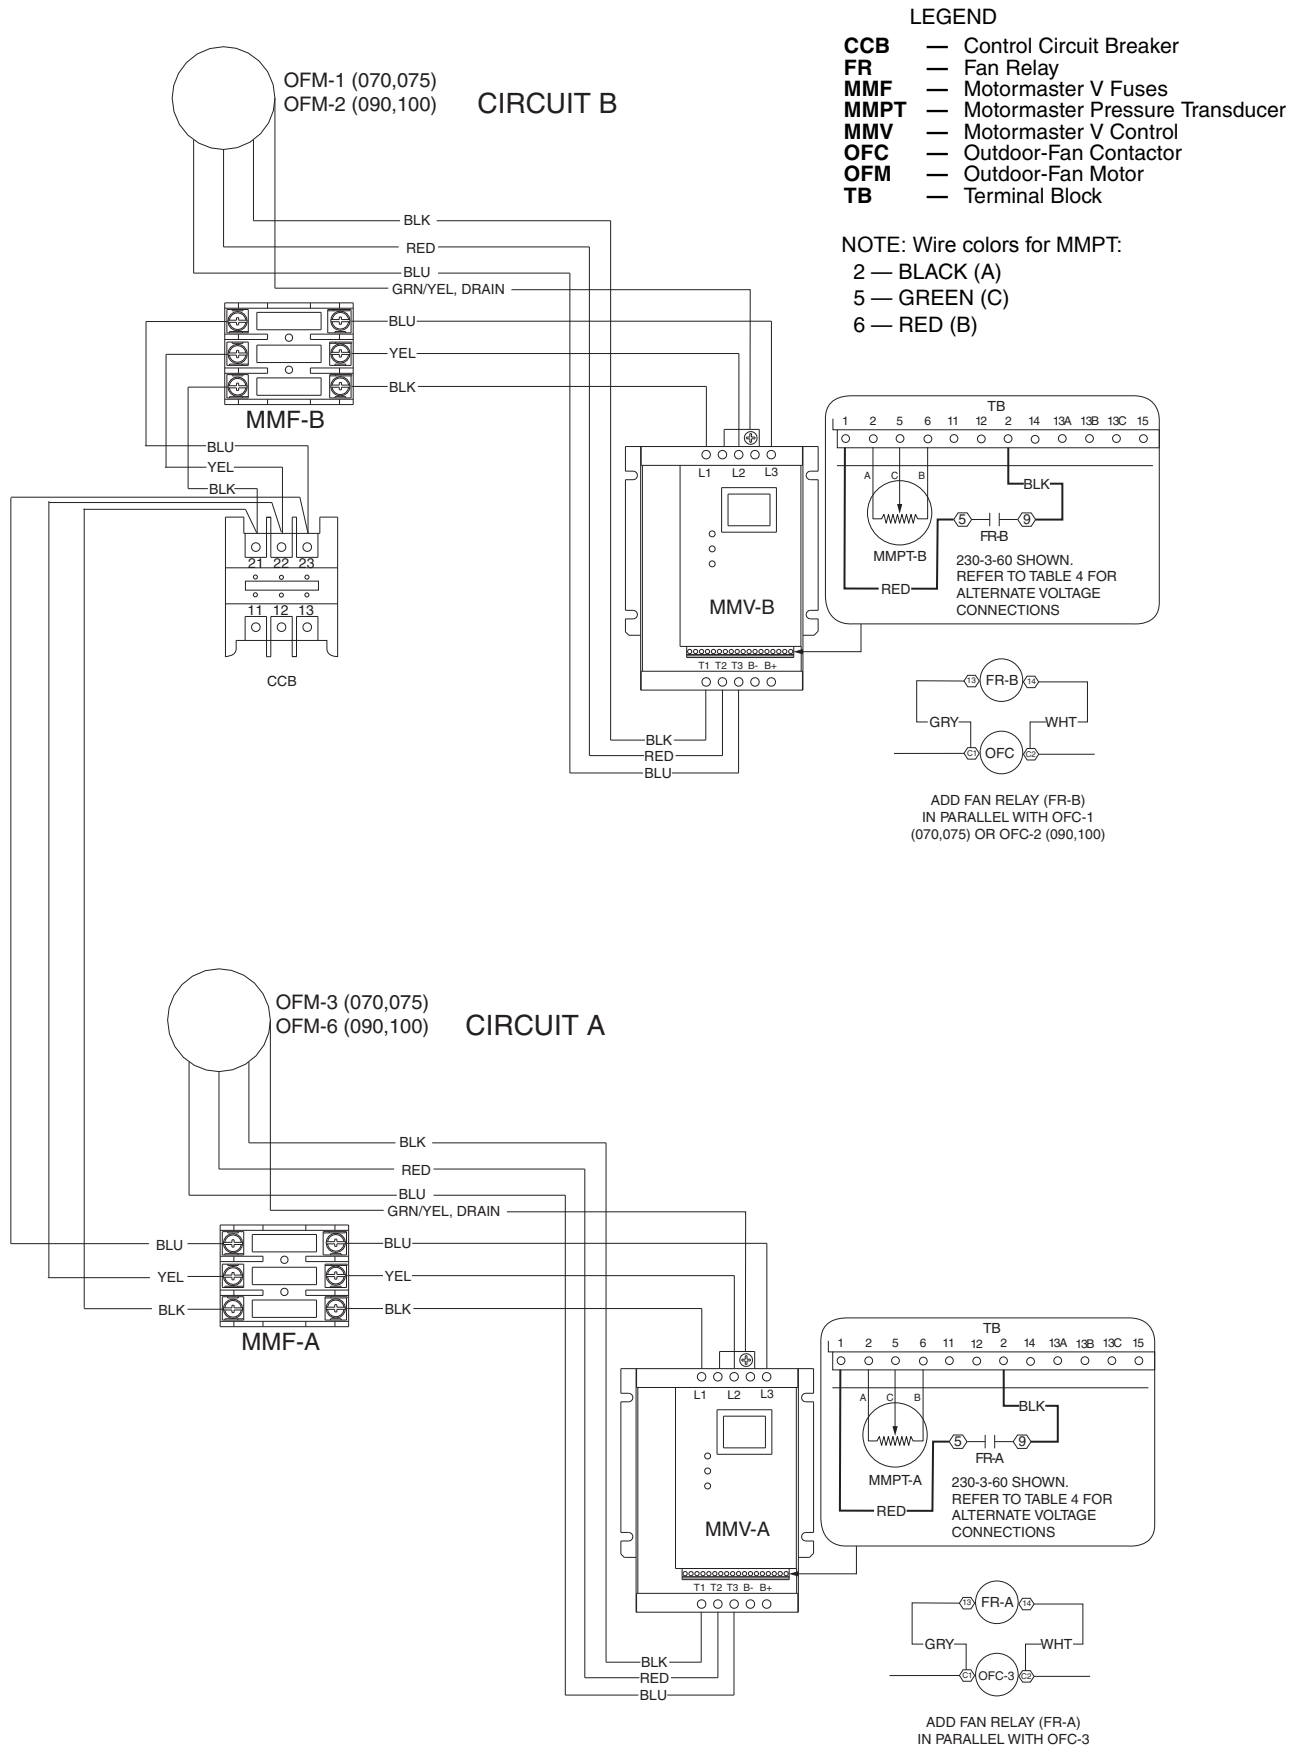

Fig. 11 — Motormaster® V Accessory Wiring — 48/50P070-100 Units
- b. Install harnesses 48EJ402454 from load side of CCB (control circuit breaker terminals 21, 22, 23) to line side of MMF-A and MMF-B fuse blocks as shown in Fig. 11. Note that it may be easier to pickup the load side of CCB from the 1/4-in. male quick connect terminals on the line side (terminals 11, 12, 13) of the OFC contactors (see power schematic on control box door).
Connect FR-A coil to OFC3 coil and FR-B coil to OFC1 coil using the 72 in. long 16 gage white and gray wires (stripped end goes to FR) as shown in Fig. 11.
Connect FR-A coil to OFC3 coil and FR-B coil to OFC2 coil using the 72 in. long 16 gage white and gray wires (stripped end goes to FR) as shown in Fig. 11.
8. Run MMPT-A cable through 1/2-in. connector of MMV-A enclosure, and MMPT-B cable through 1/2-in. connector of MMV-B enclosure (do not tighten connector screws at this time). Connect red, green, and black wires to MMV-A and MMV-B terminals 6, 5, and 2 as shown in Fig. 11. Terminate drain wire of transducer cables under one of the lower MMV mounting screws.
9. Make remaining electrical connections to MMV-A and MMV-B (see Fig. 11).
Fig. 11) (label the opposite end of this harness as FR-A) and the other Motormaster VFD harness 48ZZ402001 to the NO contact of FR-B (label the opposite end of this harness as FR-B). Run the harnesses along the bottom of the control box and out through the hole that the OFM harnesses were in. Pull the harnesses out through the hole in the bottom of the control box and run them through the opening of the cable (in the same manner as the OFM harnesses).